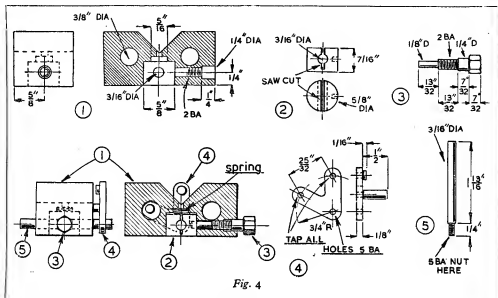

Fig. 4
The dimensions of this part are shown in Fig. 3 and also in the working drawings in Fig. 4 (1), and although these measurements are those actually used, there is no necessity to adhere strictly to them, provided that the material selected is large enough to accommodate the essential fittings.
The V-block is now transferred to the drilling machine, and to facilitate the fitting of the work-stop at a later stage, a $\frac{1}{8}$ in. diameter hole is drilled centrally in the floor of the V, as shown in Fig. 4 (1). Following this, the block is gripped,
The general arrangement of this assembly is shown in Fig. 2, and the detailed dimensions of the several parts are given in the working drawings in Fig. 4.
To allow the clamp-piece to close on the spindle of the work-stop and secure it in place, a cut is made with a fine hacksaw, as illustrated in the drawing in Fig. 4 (2).